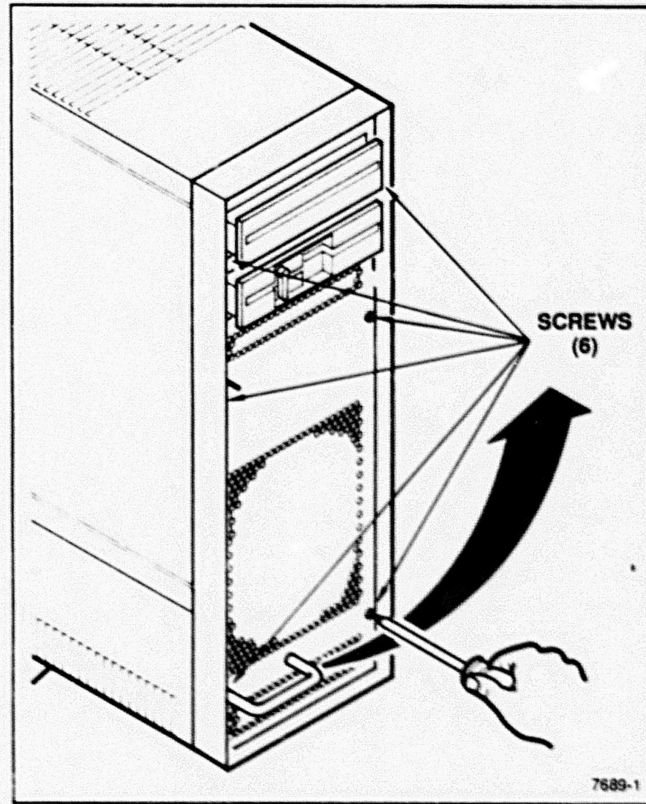

Figure 3. Removing the Front EMI Shield.
2. Remove the front EMI shield from the front of the module by removing six (6) screws and carefully pulling out on the handle, while guiding the shield around the streamer tape drive; see **Figure 3**.